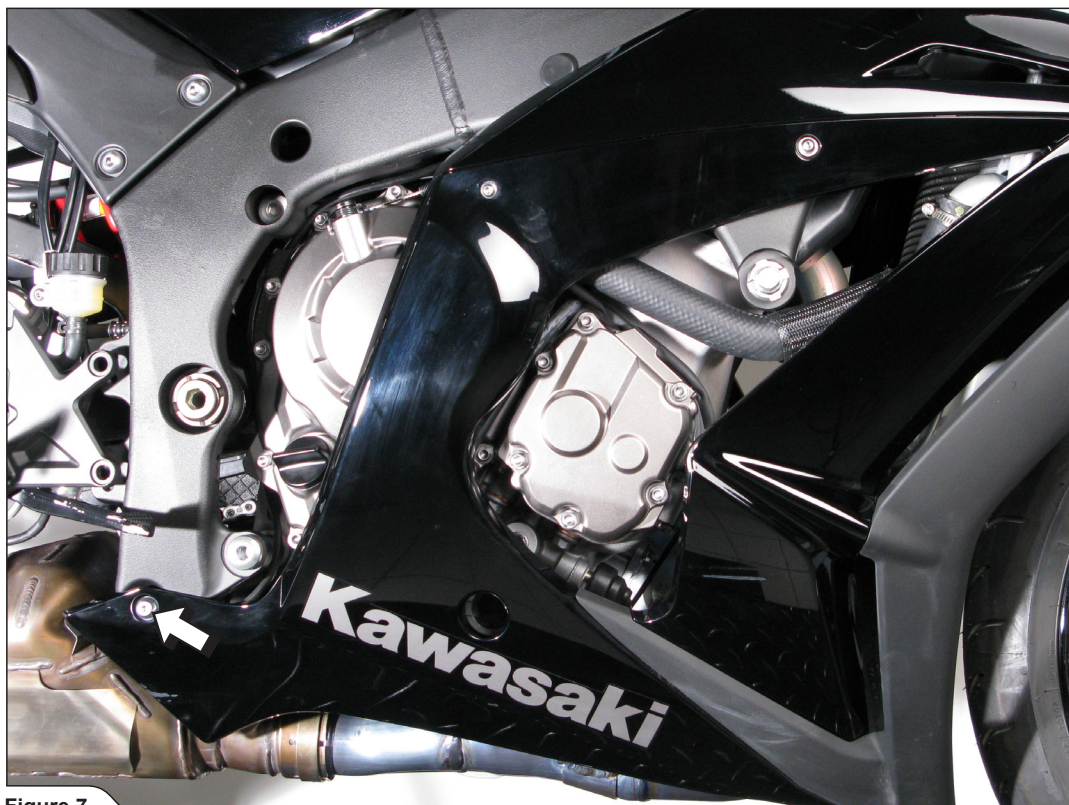

Figure 7
7. Unscrew the marked bolt and partially remove the cowling (Figure 7).